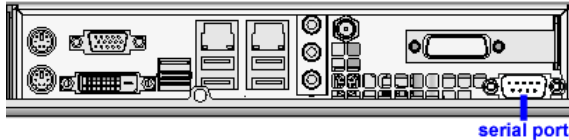
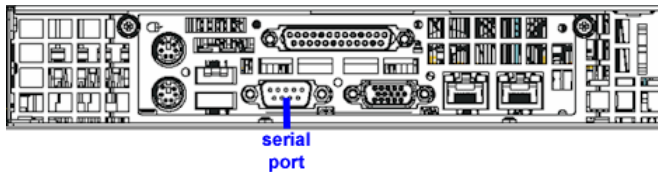
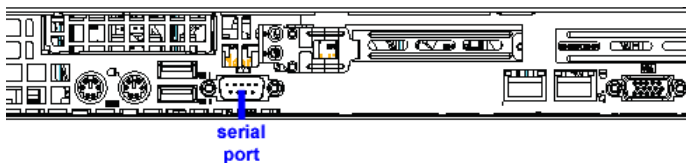

Fig. 1 - Rear of 300 series chassis with serial port identified
Fig. 2 - Portion of 500 series chassis rear with serial port identified
Fig. 3 - Portion of 700 series chassis rear with serial port identified
- A. Using the serial port cable (and USB DB9 serial adapter, if necessary), connect the laptop to the rear of the chassis (see “serial port” in Fig. 1 for a 300 series unit, Fig. 2 for a 500 series unit, and Fig. 3 for a 700 series unit).